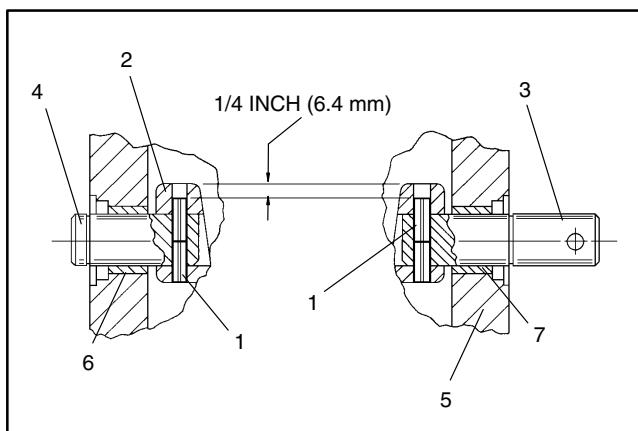

Figure 50
- 6. Insert **new** spring pins through the swashplate and into the control and trunnion shafts (Fig. 50).